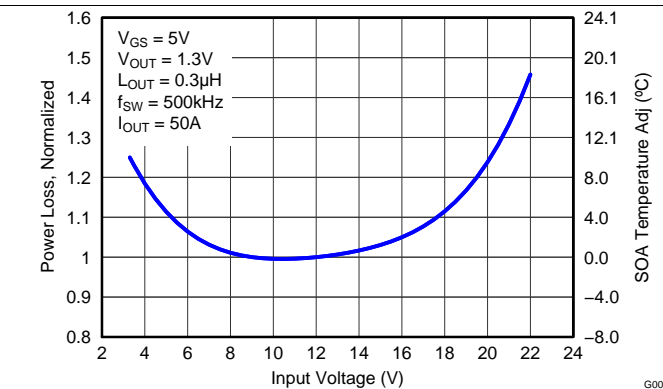

Figure 8. Normalized Power Loss vs Input Voltage
- Normalized power loss for input voltage  $\approx 1.03$  (Figure 8)
- SOA adjustment for input voltage  $\approx 1.3^\circ\text{C}$  (Figure 8)